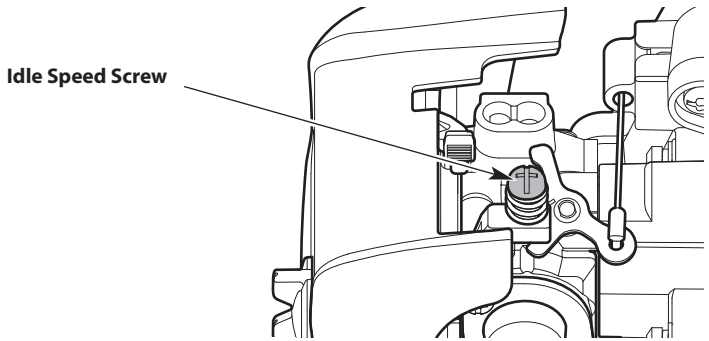

Fig. 14
- If the engine stops, increase the idle speed. Use a small Phillips screwdriver to turn the idle speed screw clockwise, 1/8 of a turn at a time, until the engine idles smoothly (Fig. 14).
- If the tines rotate when the engine idles, reduce the idle speed. Turn the idle speed screw counterclockwise, 1/8 of a turn at a time, until the tines stop moving (Fig. 14).